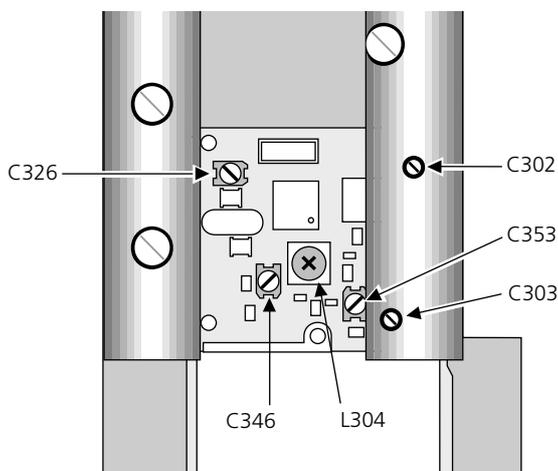

Figure 18. RF adjustment. U912RXD in alignment insert showing alignment points.
- 8 With RXEN set to **On** and IF control set to **Out**, adjust trim capacitors C302, C303, C353 and C346 to mid-position. Adjust C326 until the oscillator starts, see figure 18 and below